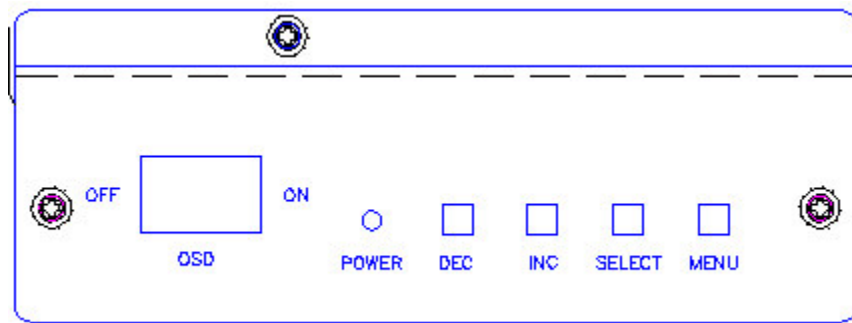

Figure 3-1. Back Panel Control Buttons
The OSD Select switch is located on the back panel and offers two choices: OFF or ON. The OSD keys can be locked-out by setting the OSD switch to OFF, or unlocked by setting the OSD switch to ON. Setting this switch to the OFF position will help prevent accidental changes to the settings. The OSD switch is next to the Menu, Select and Increase/Decrease buttons (see Figure 3-1).
Not all video controllers produce exactly the same video output levels or the same timing. The KPM(T) monitors use onscreen configuration menus to make setup and adjustment easy. The menus are selected and the menu items are adjusted using the buttons located on the back panel of the monitor (see Figure 3-1). You need only tap the buttons to activate each one. Table 3-1 outlines the functions of these controls.